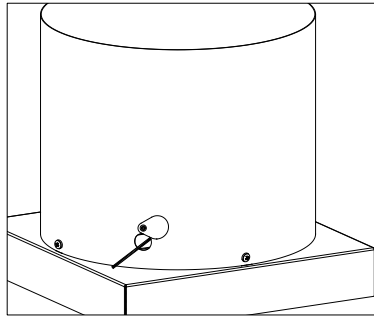

Figure 4
- As you are depressing the control knob, place long stem lighter through the glass tube to light the pilot (Figure 4) .